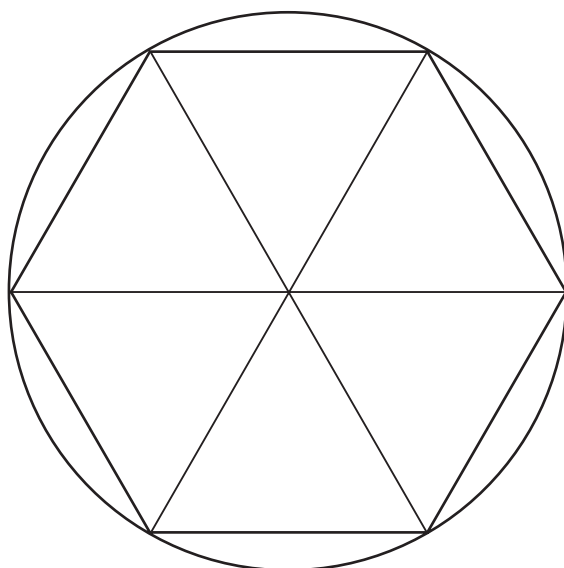

Figure 4.16 Drawing a circle
- You should end up with something like the diagram in Figure 4.16.
The radian is determined by 'walking' round the circumference of a circle an exact same distance as the radius. As Figure 4.16 shows, if six radii can be fitted into a circle's circumference by using straight lines, and each line 'bi-passed' an arc of 60° , then walking the same distance around the arc will obviously take you through some angle which is less than 60° .